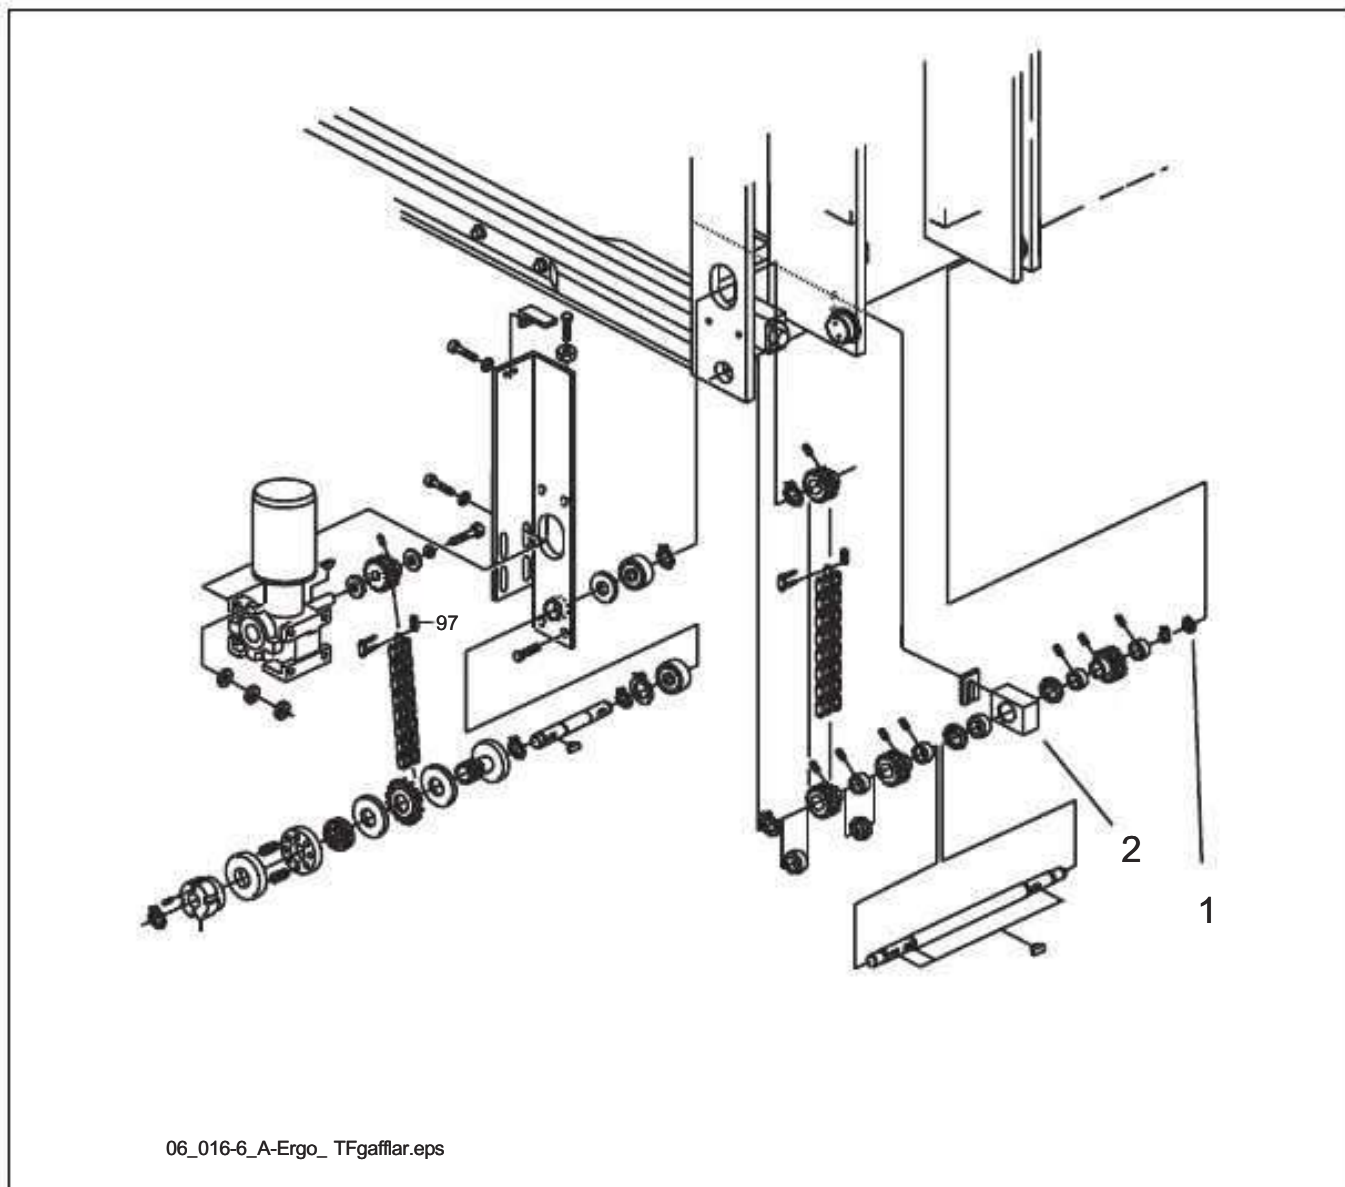

**Figure 6.34** Outer circlips for side bearing and intermediate bearing
13. Loosen the intermediate bearing, pos. 2 figure 6.34. Drive the shaft to one side so that the side bearing can be pressed out of the fork carriage. Remove the bearing and lift the shaft out from the fork carriage.